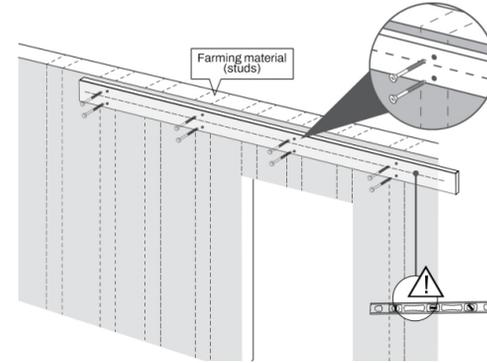

FIGURE 13
- Using a 1/8" (3.2mm) drill bit, pre-drill holes through the mounting board and into the studs. Ensure these holes do not interfere with the track mounting holes (see FIGURE 13). Secure the mounting board to the studs with #10 x 2-1/2" (64mm) screws, using two screws per stud location.